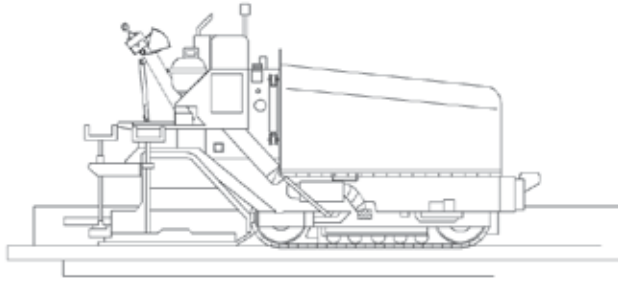

Figure 4-48. Paver On Transport
1. Position paver on trailer centered from side to side (Figure 4-48).